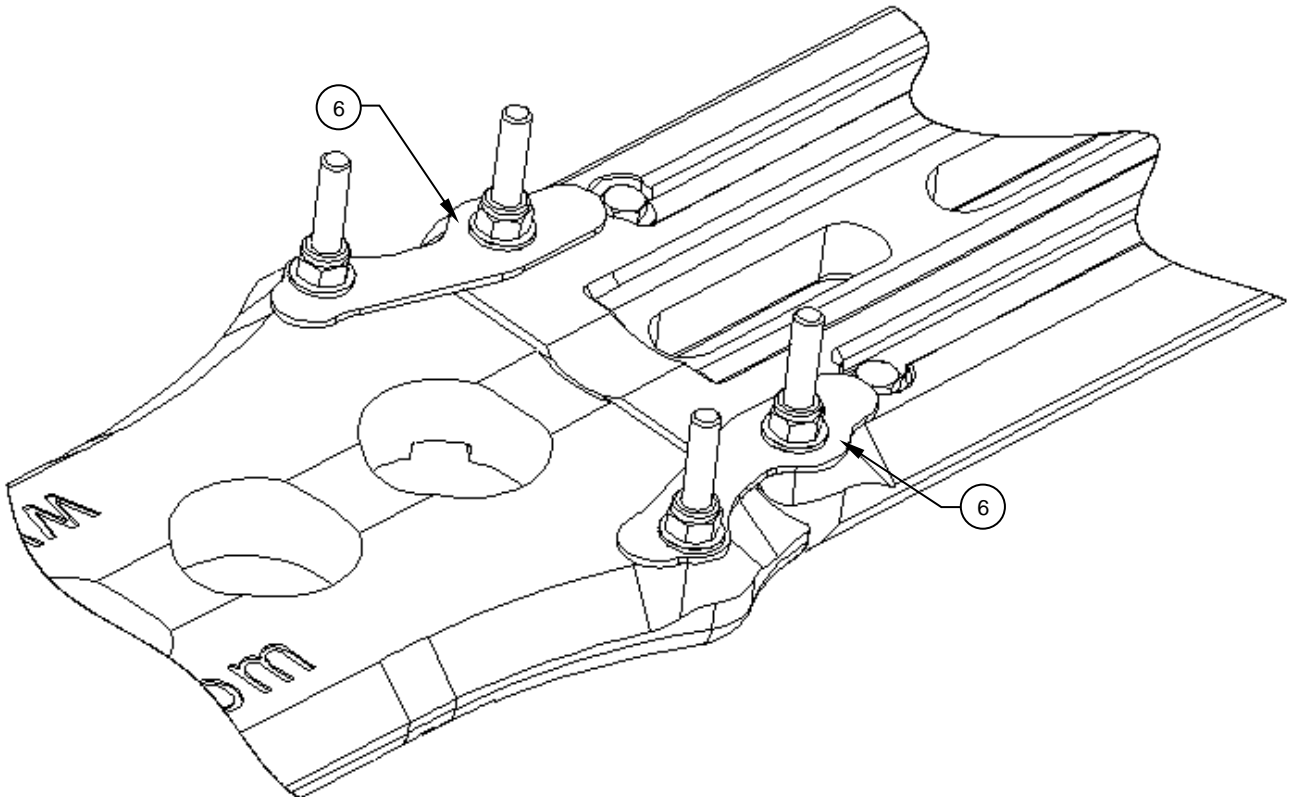

Figure 7
10. On the OUTBD side install 1x Connector, Detail, (Item 6), on the AFT end of the Traction Paw, Assy & FWD end of the Bear Paw, Assy, Kit, (Item 1). See Figure 7.
11. On the INBD side install 1x Connector, Detail, (Item 6), on the AFT end of the Traction Paw Assy & FWD end of the Bear Paw, Assy, Kit, (Item 1). See Figure 7.